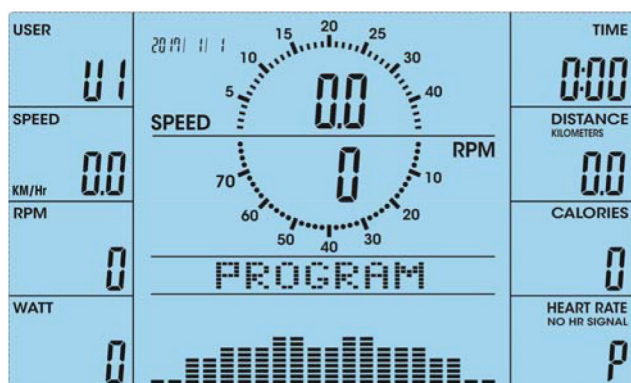
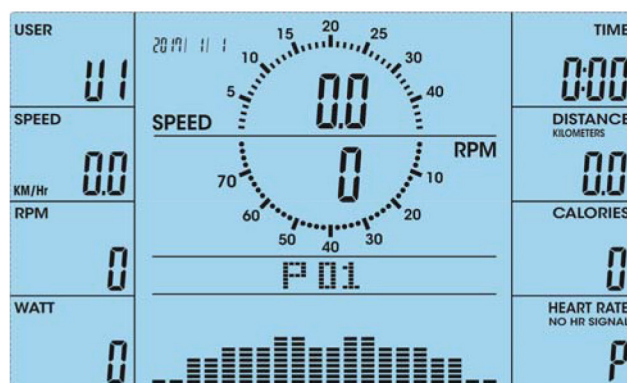

Fig. 18
Fig. 19
1. Press ENTER in the MANUAL programme (fig. 19).
1. After entering the PROGRAM mode (fig. 18) you can choose one of the 12 hill programs with the UP/DOWN buttons (fig. 19 to 30). Confirm with ENTER.